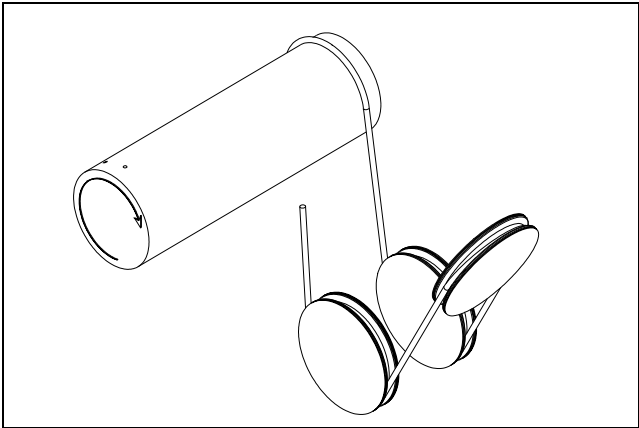

FIGURE 5-6. Reeving Diagram – 4 Part Single-Reeved. (Note: Arrow on Drum Indicates Direction of Drum when Lowering.)
- b) Before removing the old rope, refer to reeving diagram, Figure 5-6. To assist with re-reeving your hoist, refer to the reeving diagram and corresponding paragraph that describes the reeving procedure.
- (1) Lower the lower block to a scaffold 6 to 7 feet below hoist to relieve tension on wire rope. (Lower block may be lowered to the floor if desired; however, to handle less weight and for ease of reeving, adequate scaffold below the hoist is recommended.)
- (7) With outer lower block covers removed, thread the wire rope through the sheaves of the upper and lower block as shown in Figure 5-6.
- (8) Attach swaged rope end to the dead end anchor pin fastening cotter pins or retaining rings as required.
- (9) Replace the lower block sheave covers.